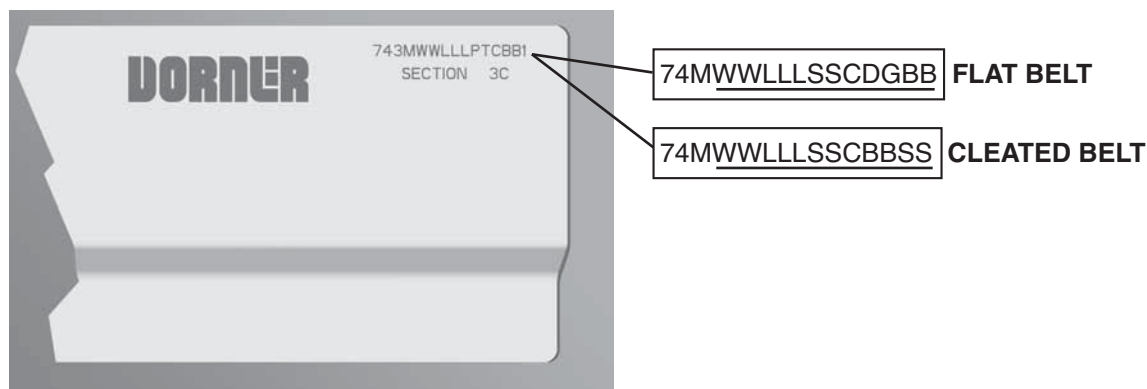

Figure 81
Refer to the model number on the conveyor frame (**Figure 81**). From the model number, determine conveyor width (WW), length (LLL), drive stand location (S), idler stand location (S), cleaning options (C), drive/pulley type (D), profile (G) and belt material (BB).
Refer to the model number on the conveyor frame (**Figure 81**). From the model number, determine conveyor width (WW), length (LLL), drive stand location (S), idler stand location (S), cleaning options (C), cleated belt material (BB) and cleat spacing (SS).